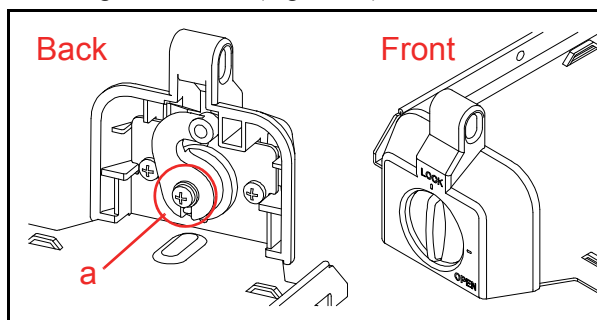

Figure 9 Plastic Latch Installation 2
3. Retain the Door Lock A and the Door Lock B by the single (1) 2.6x8 Phillips, Self-Tapping, Binding Head Screw (Figure 9 a).